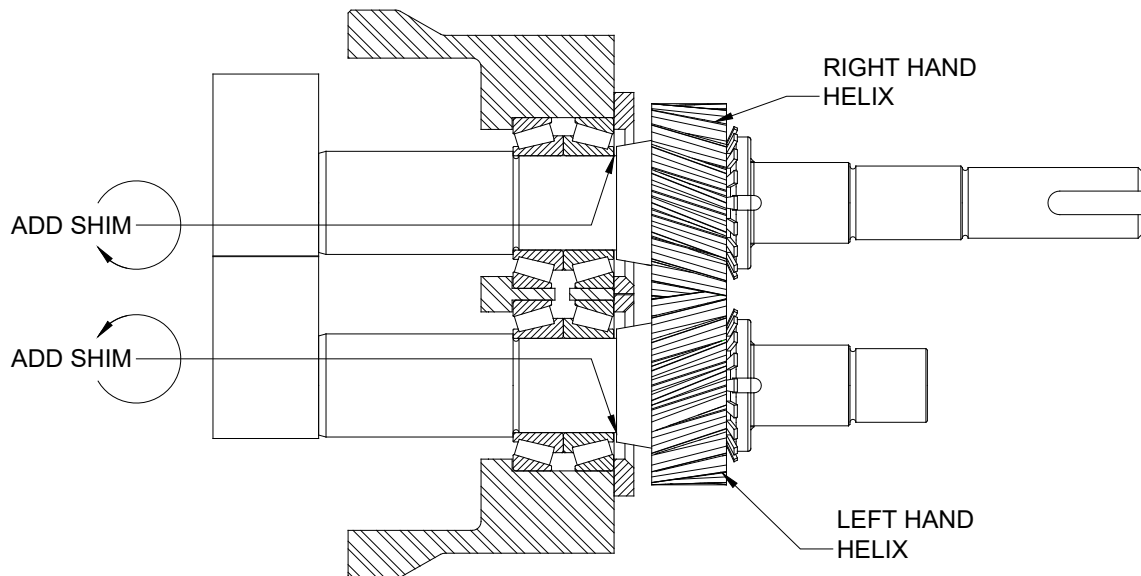

Fig 27 Preload setting
- To adjust mesh clearance shims (5.08) will need to be inserted between the spacer (5.16) and the gear (5.09). As a guide for a mesh clearance change of one unit (say 0.1mm or 0.004"), shims (5.08) of four units' thickness (say 0.4mm or 0.016") need to be inserted. Further, for clockwise movement of the rotor (when viewed from the rotor end) insert shim (5.08) in between the spacer (5.16) on the CP10; or bearing (5.05) on the CP20 and CP30; and the gear (5.09) having a right hand helix, and vice versa, see Fig 27.